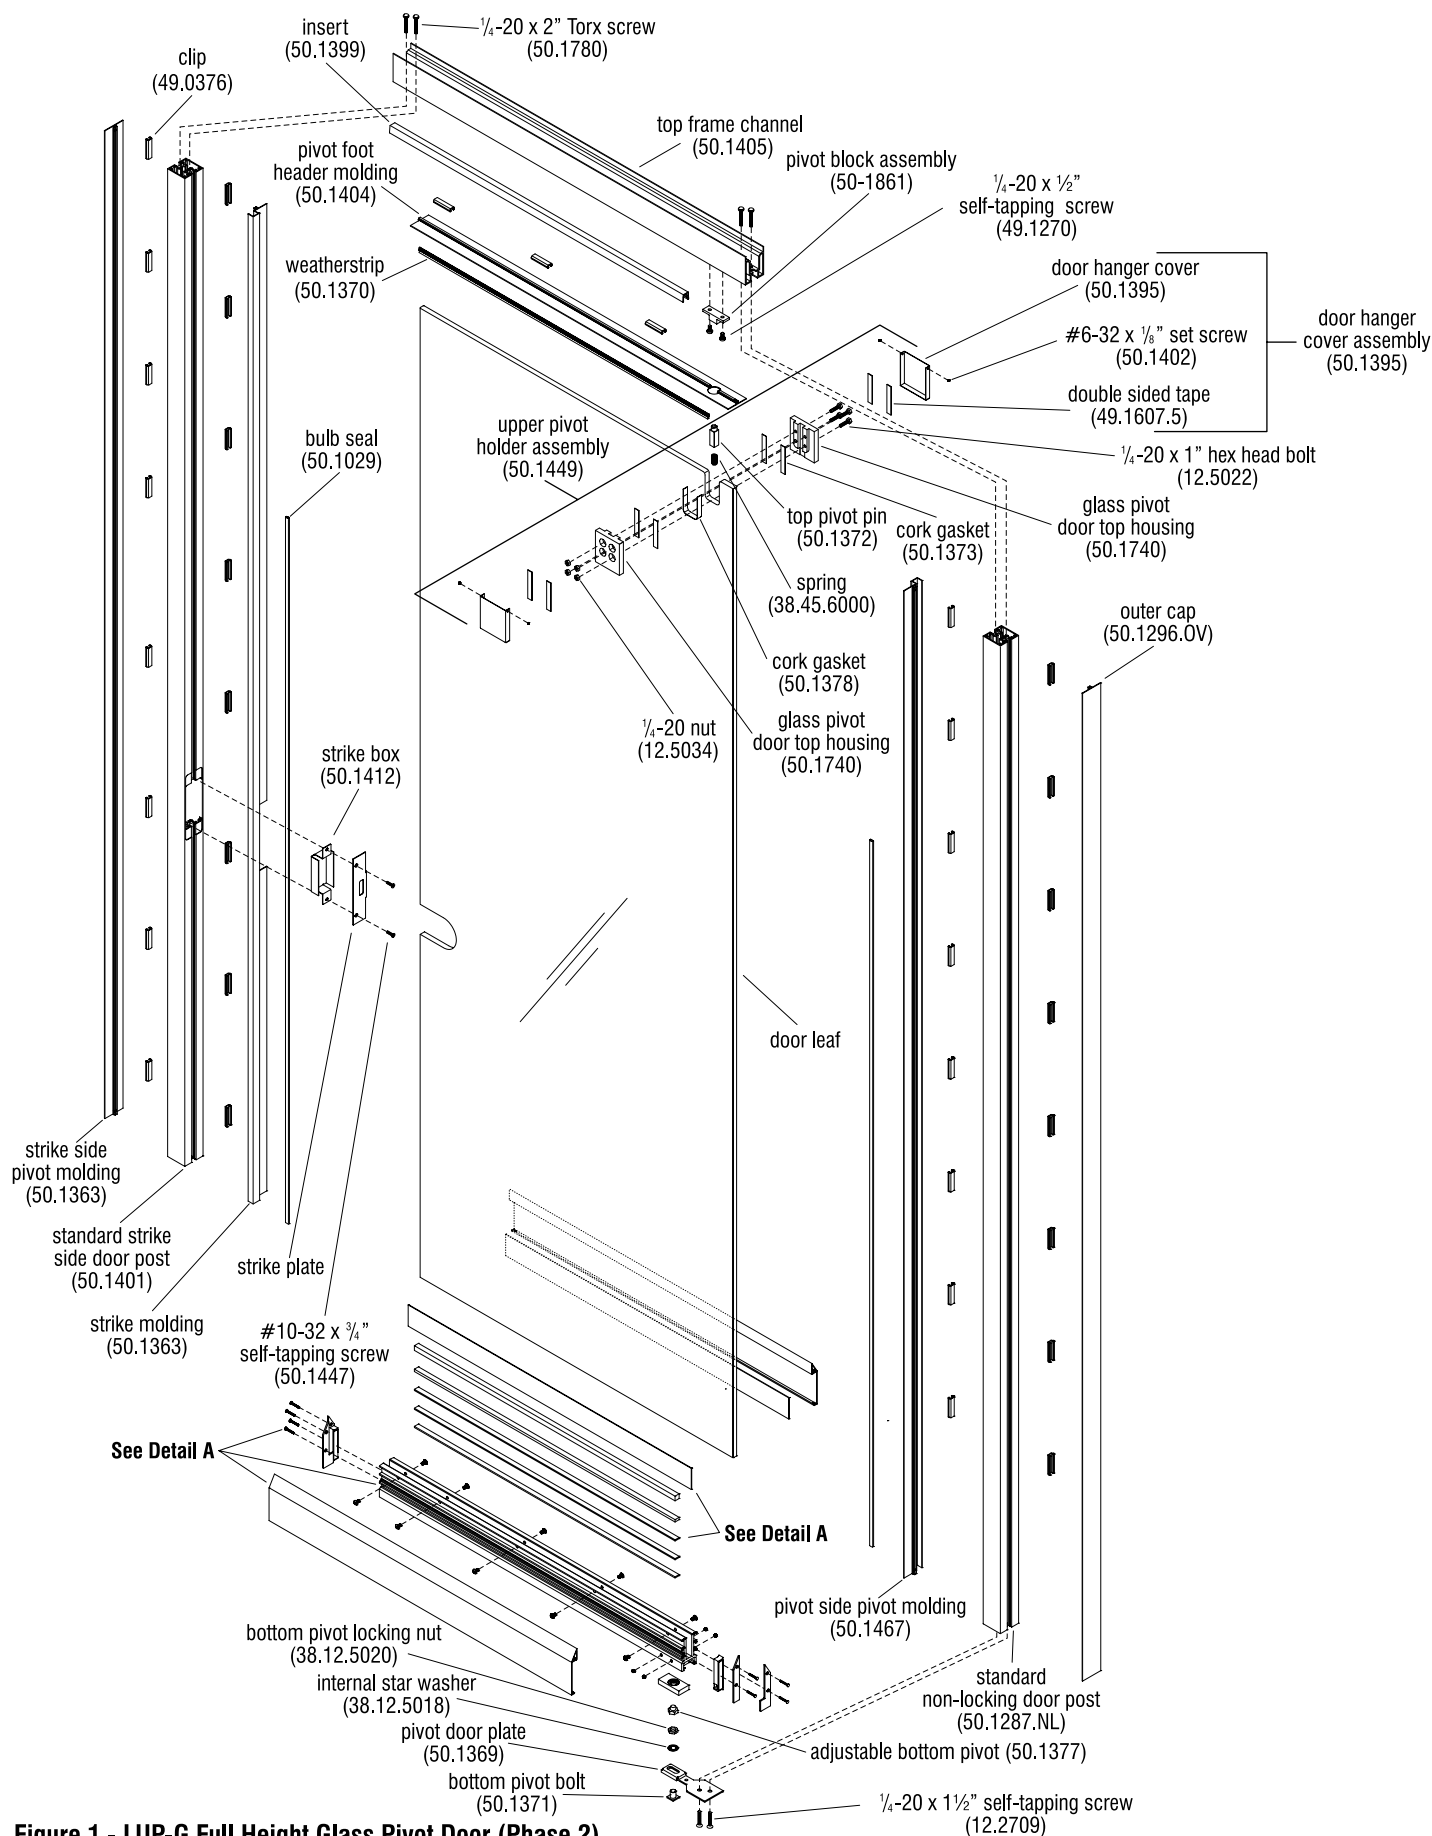

Figure 1 - LUP-G Full Height Glass Pivot Door (Phase 2)
1. To determine what length the "standard strike-side door post" (50.1401) must be cut to, first install into position a sample piece of ceiling trim onto the ceiling rail at the door post location. Determine the length by measuring from the bottom of the installed sample ceiling trim, down to the floor at that post location and record that measurement. If carpet is present, account for extra length that the post will sink into carpet (Figure 1).
2. Locate the standard strike-side door post, measure from the top of the post to the bottom and mark the recorded measurement onto the post at the bottom end. Cut the bottom of the post off square at that length (Figure 1).
the length by measuring from the bottom of the installed sample ceiling trim, down to the floor at that post location and record that measurement. If carpet is present, account for extra length that the post will sink into carpet, and also remove length for the $\frac{1}{8}$ " thickness of the pivot door plate (50.1369) (Figure 1).
4. Locate the standard non-locking door post and remove the two $\frac{1}{4}$ -20 x $1\frac{1}{2}$ " screws attaching the pivot door plate (50.1369) to the underside of the door post. Then measure from the top of the post to the bottom and mark the recorded measurement onto the post at the bottom end (taking into account for carpet and the pivot door plate). Cut the bottom of the post off square at that length, then re-install the pivot door plate removed above in this step (Figure 1).
5. Stand both door posts up under the ceiling rail at their respective installation locations and check that the posts are cut to the correct height. Remove the sample ceiling trim once the posts are known to be the correct height (Figure 1).
6. Lay the posts with the top frame channel onto a soft protective surface on the floor, in the correct orientation. Secure the pieces together using four $\frac{1}{4}$ -20 x 2" Torx screws (50.1780) (Figure 1).
7. If not already installed, position the pivot block assembly (50.1861) over the pre-drilled holes in the top frame channel and secure using two $\frac{1}{4}$ -20 x $1\frac{1}{2}$ " self-tapping screws (49.1270) (Figure 1).
9. To prepare the pivot door leaf, begin by attaching the upper pivot holder assembly (50.1449). If you have closer housing kit (50.1730) please go to page 71 for instructions. Apply cork gasket (50.1378) around the perimeter of the notch in the top of the door leaf (Figure 1).
10. Apply two pieces of cork gasket (50.1373) to the inside of one half of the glass pivot door top housing (50.1740) (Figure 1). Repeat this step for the other half.
11. Place both glass pivot door top housing halves (50.1740) into the notch and secure using four $\frac{1}{4}$ -20 x 1" hex head bolts (12.5022) and $\frac{1}{4}$ -20 hex nuts (12.5034). Make sure the housing halves assembly is fully seated into the notch and tighten nuts firmly (Figure 1).
12. Check to see if the housing nuts and bolts are properly tightened by temporarily inserting the spring (38.45.6000) and top pivot pin (50.1372). It should not rattle, but still move freely. Remove the pivot pin and spring once the housing assembly is properly tightened. Do not install the spring, pivot pin and trim covers at this time (Figure 1).
14. Next place the adjustable bottom channel with bottom pivot onto the adjustable bottom pivot (50.1377) (Figure 1).
23. With the assistance of a second person, install the door assembly onto the adjustable bottom pivot (Figure 1).
24. Insert the spring (38.45.6000) and top pivot (50.1372) into the glass pivot door top housing. Using the supplied tool, compress the spring-loaded pivot down and move the door into position, then release the spring-loaded pivot into the upper pivot bushing (Figure 1).
25. Check the door for proper height and lock engagement. Adjust the height of the door as needed by turning the adjustable bottom pivot (Figure 1).